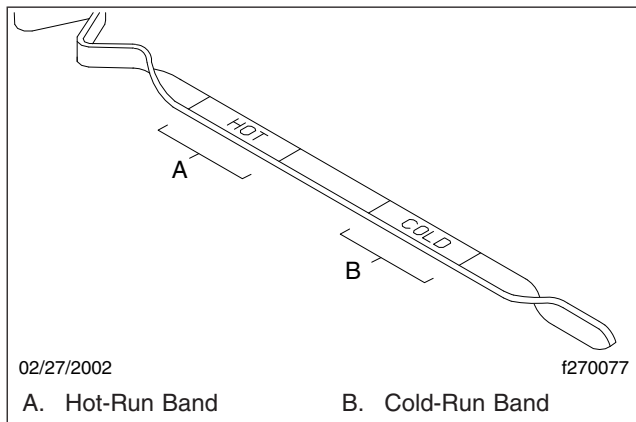

Fig. 11.6, Automatic Transmission Dipstick Markings
- Operate the transmission in a Drive (D) range until normal operating temperature, 160 to 200°F (71 to 93°C), is reached.
- Park the vehicle. Shift to Neutral (N) and apply the parking brake. Let the engine run at idle.
- Wipe the dipstick clean and check the fluid level. A safe operating level is any level within the HOT-run (upper) band on the dipstick. See **Fig. 11.6**.